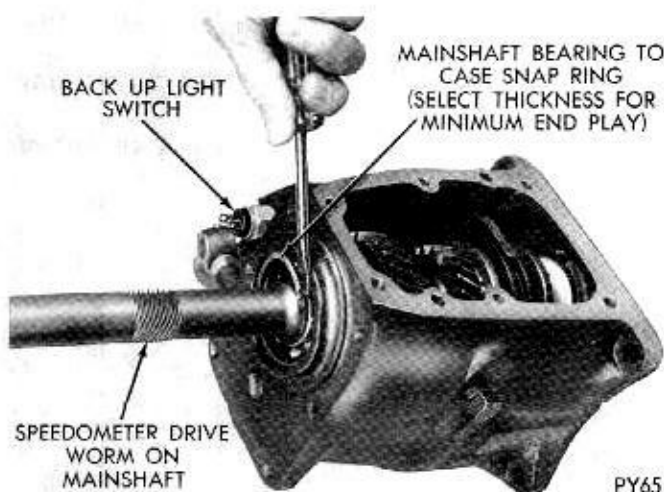

Fig. 21—Removing Mainshaft to Case Snap Ring
(2) Remove mainshaft bearing retaining snap ring from case (Fig. 21).
(3) Slide mainshaft and bearing rearward out of SYNCHRONIZER-OUTER STOP RINGS.
(7) Select and install mainshaft bearing snap ring (Fig. 21) in case.